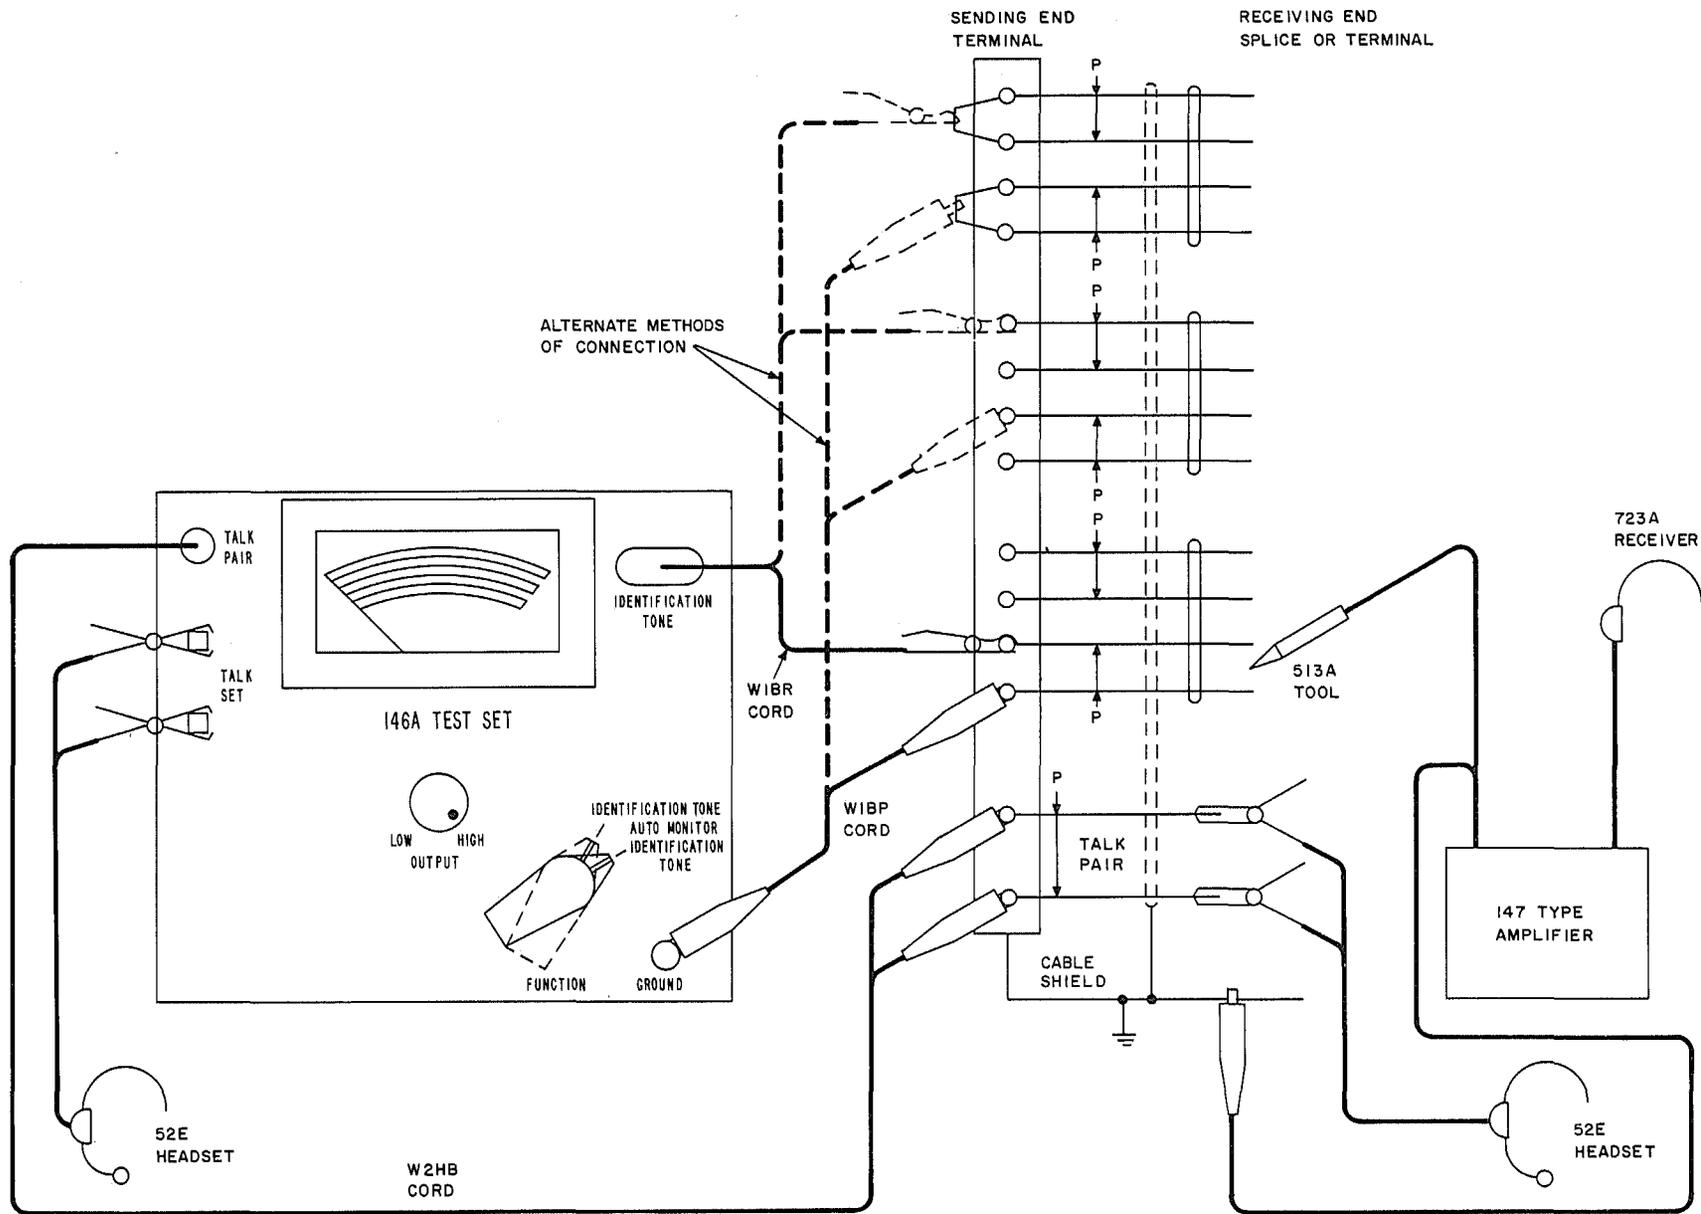

Fig. 12—Identifying Conductors in Quadded Cable—Tone Sent From Terminal Location
- 5.24 If it is desired that tone be sent from a terminal location, refer to Fig. 12. Establish a talking circuit as described in Part 4.
Warning: When used as shown in Fig. 12 the case of the test set is not at the potential of the cable shield but is at the potential of the wire to which the W1BP cord is attached.
5.27 Two alternate methods of connecting the W1BR cord and the W1BP cord are also shown in Fig. 12.